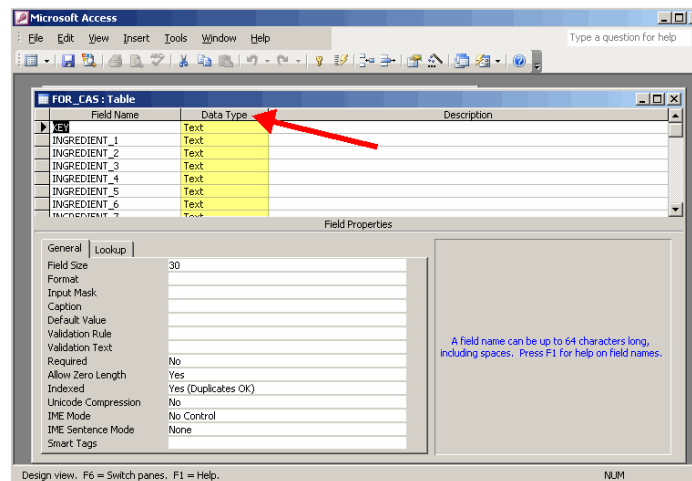

Figure 2-9
2.4.2. Change the *Data Types* to *Text* for all fields in the table. (Figure 2-9)